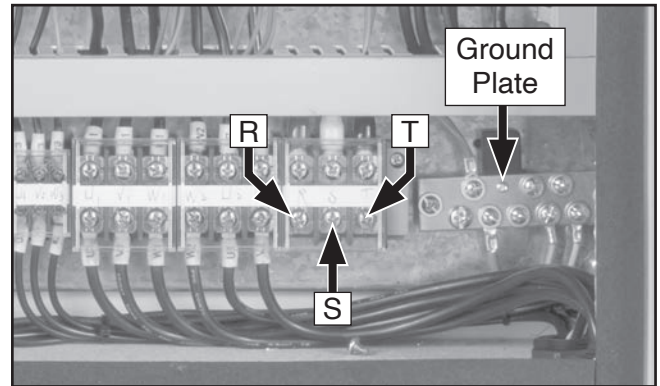

Figure 37. Location of R, S, T terminals.
During next step, make sure incoming ground wire is connected to correct terminal to ensure machine will be properly grounded (see "Ground Plate" in **Figure 37**). An ungrounded or improperly grounded machine can cause electrocution if live electrical wires make contact with frame or other parts touched by operator.
4. Attach incoming power wires to terminals R, S, and T (see **Figure 37**), then attach ground wire to ground plate.